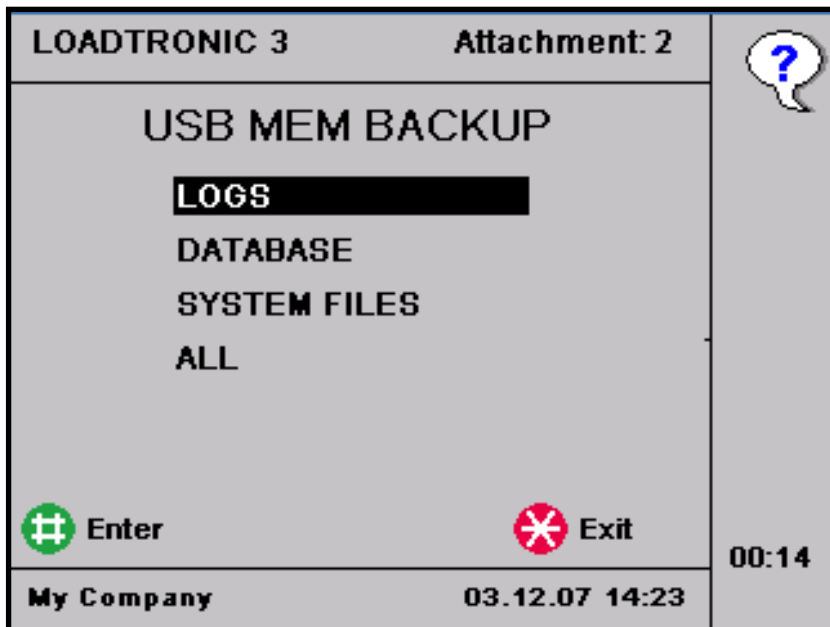

Figure 5-4 Backup.
2. Select which files to backup: Logs, Database and/or System files, refer Figure 5-4.